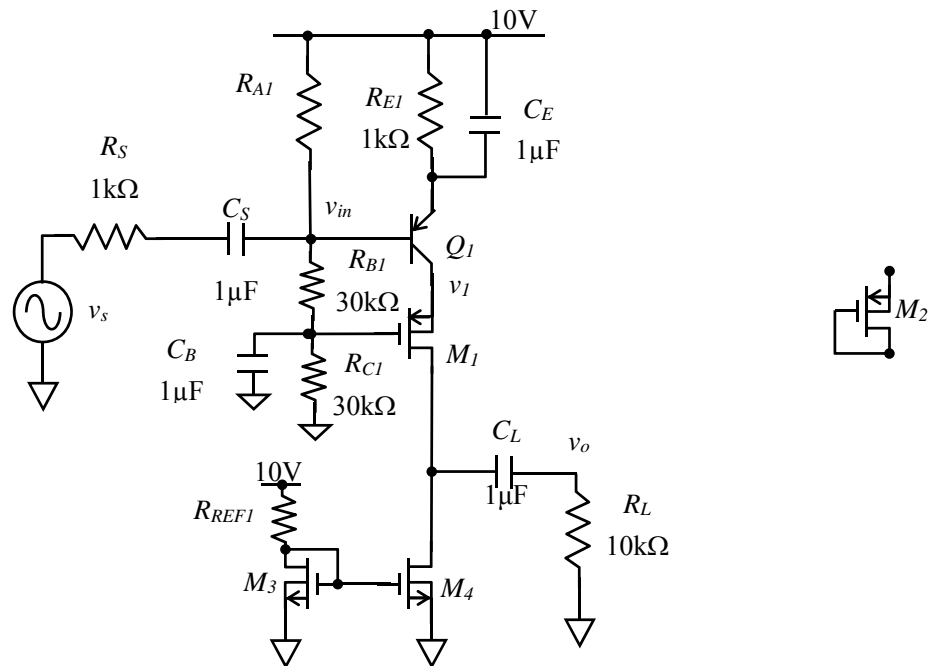

Fig. Q1
In the two-stage amplifier circuit shown in Fig. Q1, assume that the pnp BJT, the NMOS transistors and the PMOS transistors have the following device parameters:
- Diode connected transistor  $M_2$  shown in the right of Fig. Q1 can be used to replace  $R_{E1}$ . Comment whether the overall gain will be affected and if the gain is affected, which component values need to be changed to restore the gain in part (e).